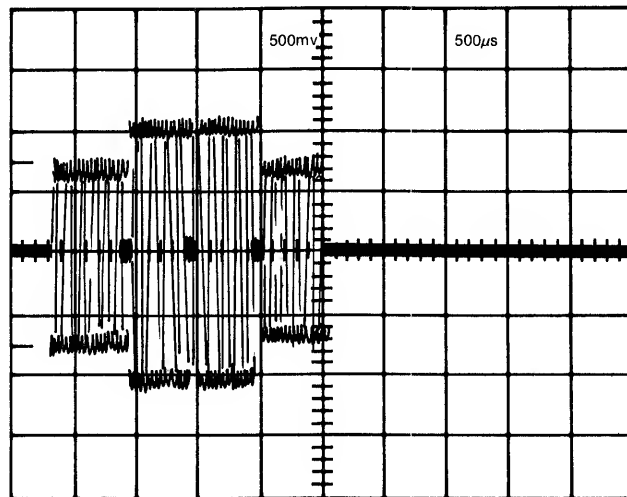

Figure 4-9. Optimum Head Azimuth Alignment
4. Observe the pattern in Figure 4-9. This depicts an optimum head alignment of zero minutes of azimuth error. This means that the head carriage is perpendicular to the track being read. Bursts 1 and 4 are of equal amplitude; bursts 2 and 3 are of equal amplitude.